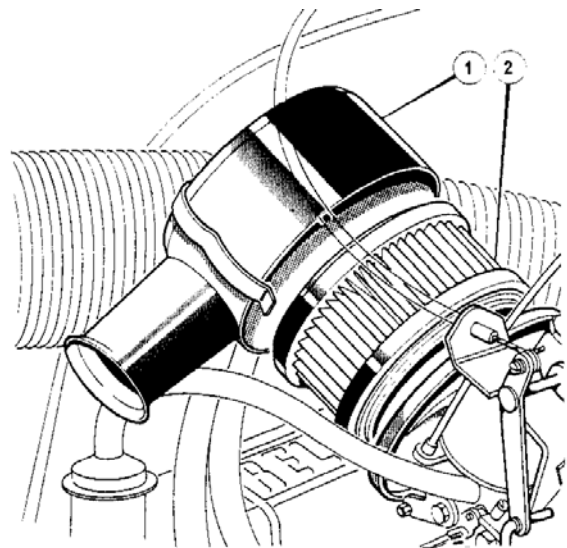

Figure 8 Air Cleaner
1. Clean the outside of the air filter body and release the two clips retaining the body to the base plate. (**figure 8**)